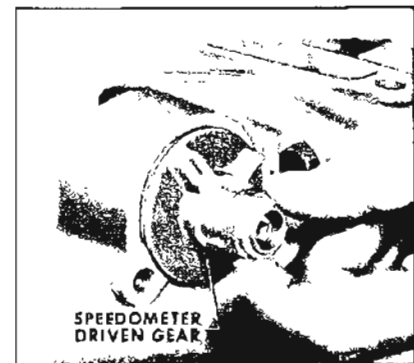

Figure 5-338
1. Install speedo driven gear assembly into rear bearing re-tainer. See Figure 5-338.